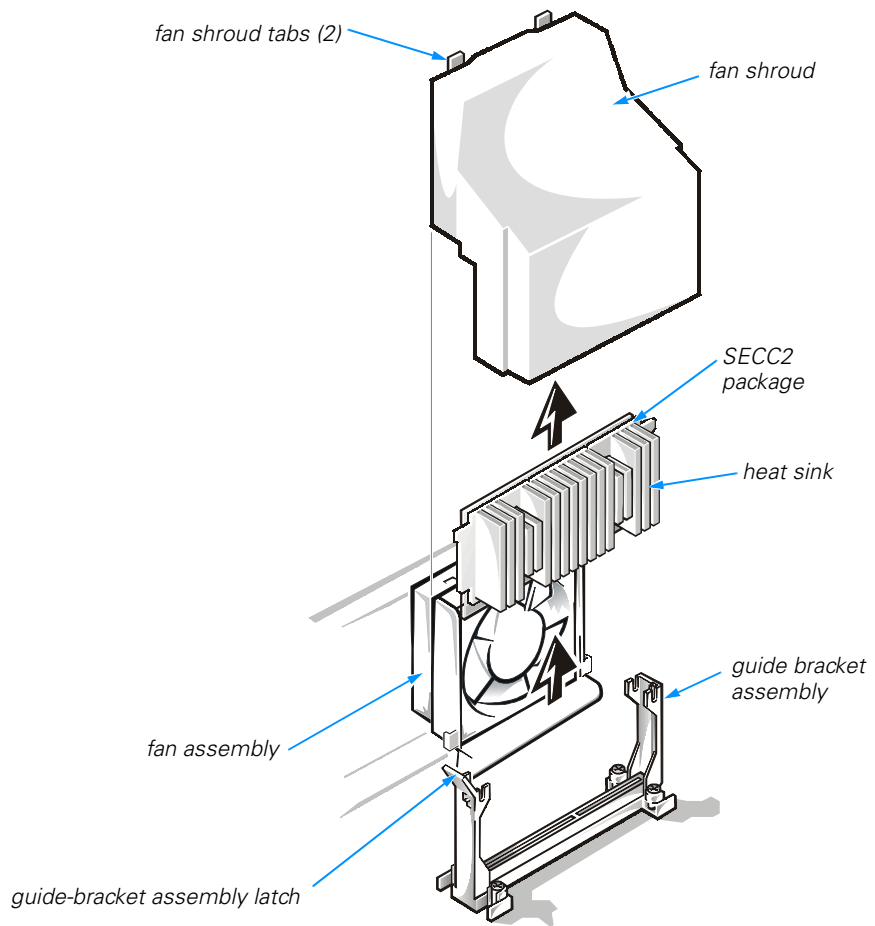

Figure 6-3. Removing the SECC2 Package and Heat Sink
2. Remove the fan shroud by pressing its two tabs (see Figure 6-3) and gently lifting the shroud until it clears the fan and guide bracket assemblies. Set the fan shroud aside.